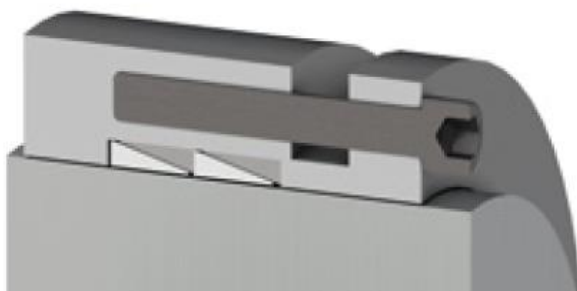

Figure 4-3 Positioning of shaft-hub connections with multiple clamping elements
1. Position the hub (3) on the shaft (4).
2. Position the preassembled clamping element (2) in the hub bore. Make sure that the clamping element can be moved easily.
3. If several clamping elements are positioned one behind the other, make sure that the inner and outer rings are correctly aligned (Figure 4-3).
4. Place the pressure flange (1) on the shaft.
5. Tighten the cylinder-head screws (5) slightly so that the clamping element can still be moved.
7. Tighten the cylinder-head screws (5) crosswise in several turns. The specified tightening torque can be found in the Tightening torques and widths A/F section. The shaft (4) must fill the complete length of the hub (3) and the pressure flange (1).